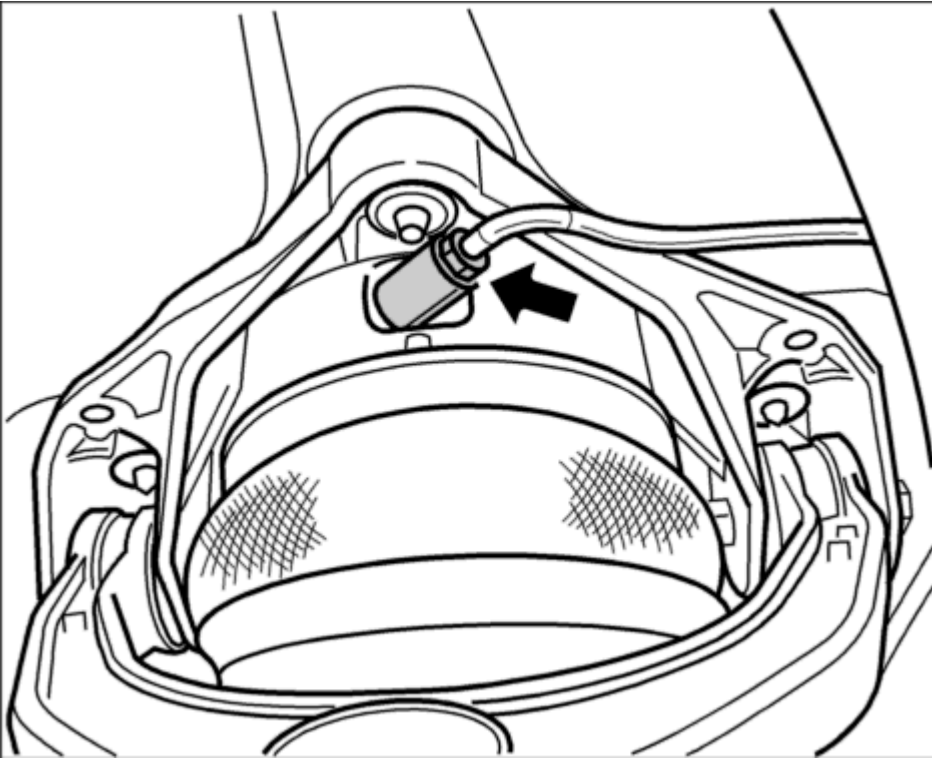

Fig. 83: Pressure line on residual pressure retaining valve
3. Loosen pressure line at the residual pressure retaining valve -**arrow**- using **insert part T10212**. See **Fig. 83**.